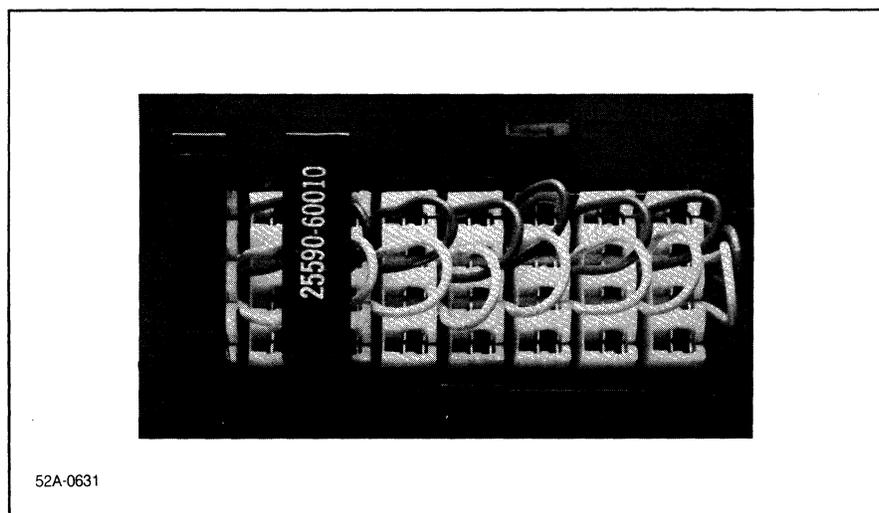

Figure 7-6. Shorting connector
- 4) Shorting connector, part number 25590-60010, as shown in figure 7-6.
- 1) Select a channel and short the high and low input pins of that channel, using the shorting connector (shown in figure 7-6).